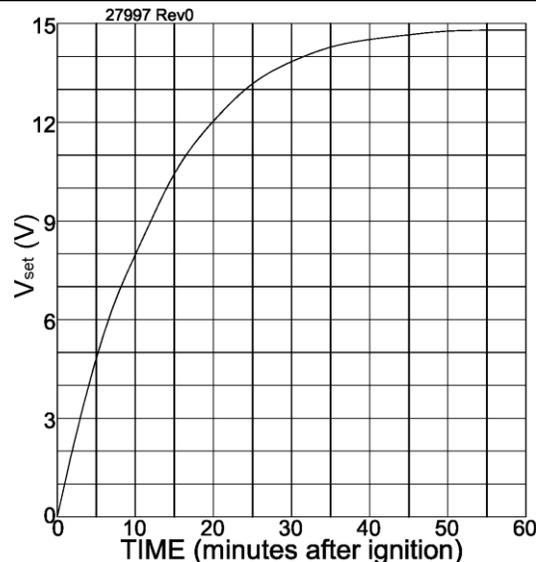

Figure 20 – V_{set} vs Time After Ignition, Example
3. Connect a voltmeter between terminals 2 (+) and 4 (-). This is the measured V_{set} and should tend towards the required V_{set} (determined in step 1). It will climb as shown in Figure 20.